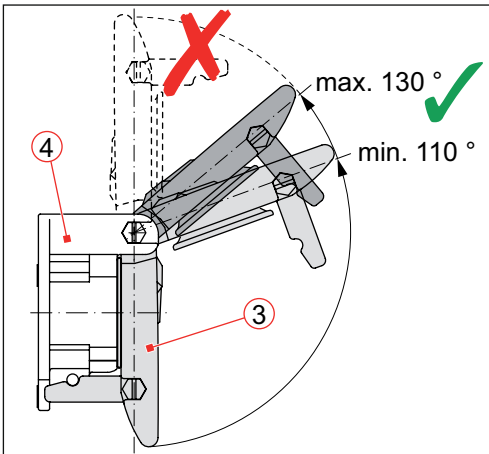

Fig. 20: Open the hinged lid (3) of the coupling receptacle (4): Opening angle at least 110°, at most 130°
- ▶ Open the hinged lid of the receptacle by an angle of at least 110° but not more than 130° (refer to *Fig. 20*). Overstretching of the hinged lid may shorten the operational life span of the torsion spring and may damage the hinge mechanism.